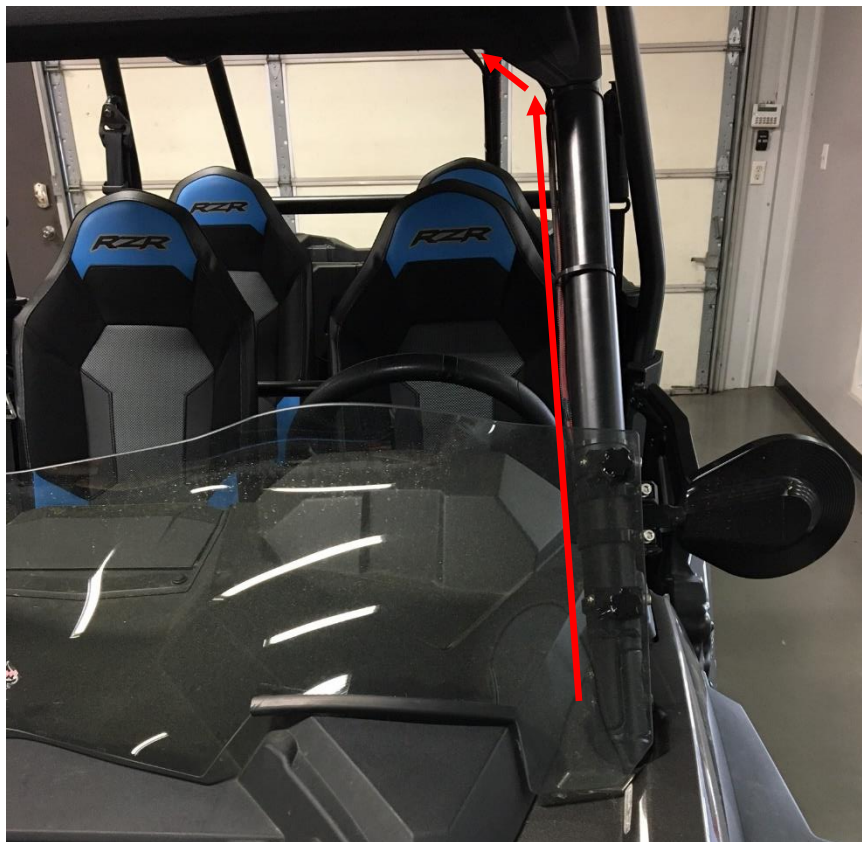

Figure 14: Harness route up the front frame tube.
12. Route the harness up the front driver's frame tube to the front cross member, as shown in Figure 14. Loosely zip tie the harness to the frame tube, waiting to fully tighten them until the Audio Mini is tightened in the desired position.